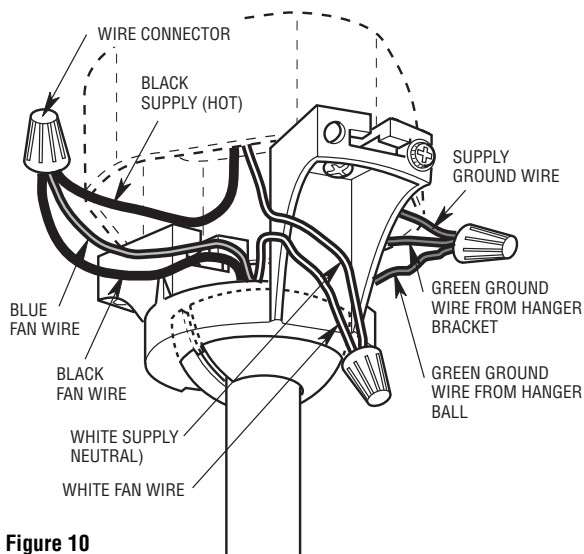

Figure 10
- Connect the green grounding lead from the hanger ball and the green grounding lead from the hanger bracket to the grounding conductor of supply (this may be a bare wire or wire with green colored insulation) (Figure 10). Securely connect wires using wire connectors supplied.
- 2. Securely connect the fan motor white wire to the supply white (neutral) wire using wire connector supplied (Figure 10). Securely connect the fan motor black wire and blue wire to the supply black (hot) wire using wire connector supplied (Figure 10). After connections have been made, turn leads upward and carefully push leads into the outlet box, with the white and green leads on one side of the outlet box and the black and blue leads on the other side of the outlet box.